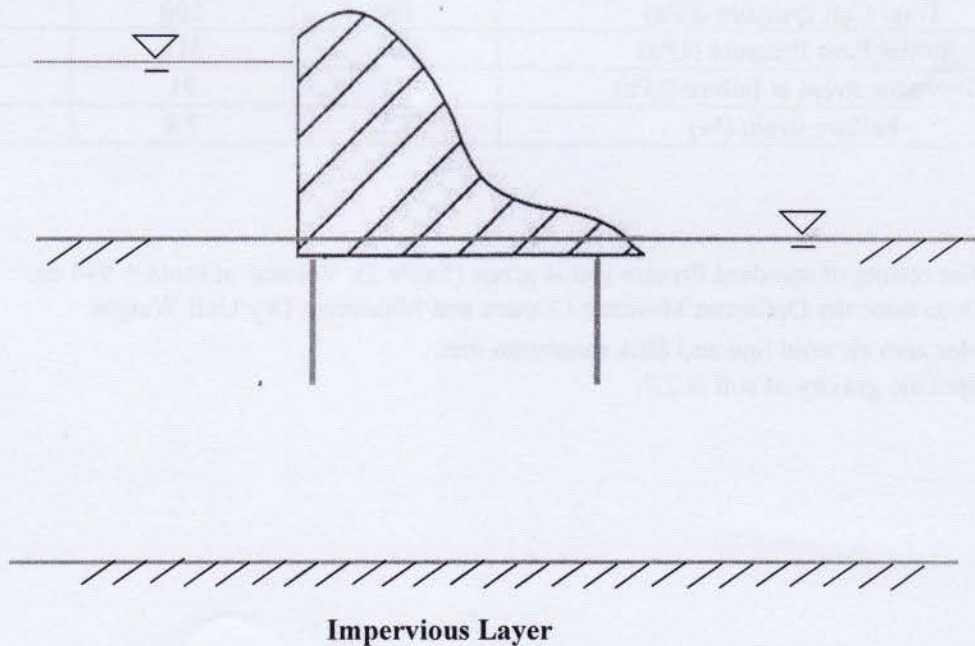

Fig. 4 (Question No. 6a)
6. (a) Sketch a flow-net for a concrete dam with two cutoff walls, as shown in Fig. 4. 5